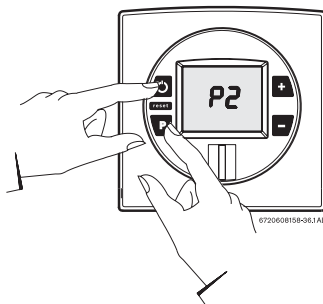

Fig. 56
- ▶ While holding the Program (P) button in, press the ON/OFF button to turn ON the heater (see Fig. 56). As soon as '188' flashes on the display, release the Program button. The display should now read P2. Press '■' button until "P1" appears on display.